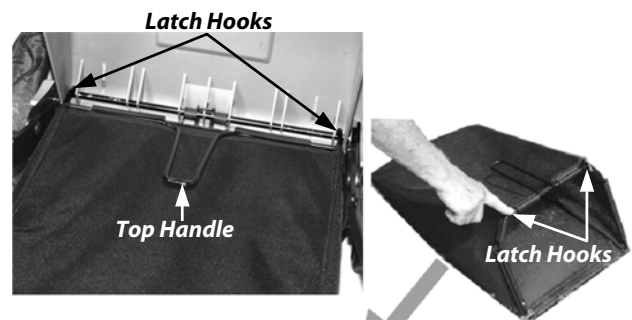
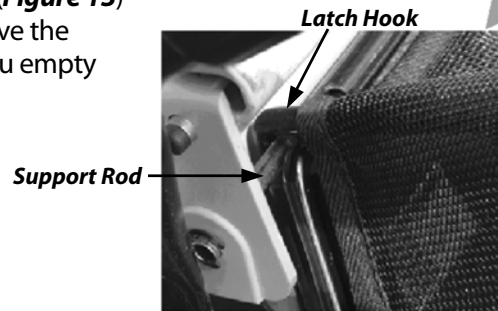

Figure 11
Figure 12
2. Grasp the Bagger by the Top Handle (**Figure 11**) and center it at the back of the Mower.
3. Align the Metal Latch Hooks (**Figure 11**) over the Support Rod (**Figure 12**) and lower the Bagger in place until the Wire Frame at the bottom of the Bagger rests on the Mower.